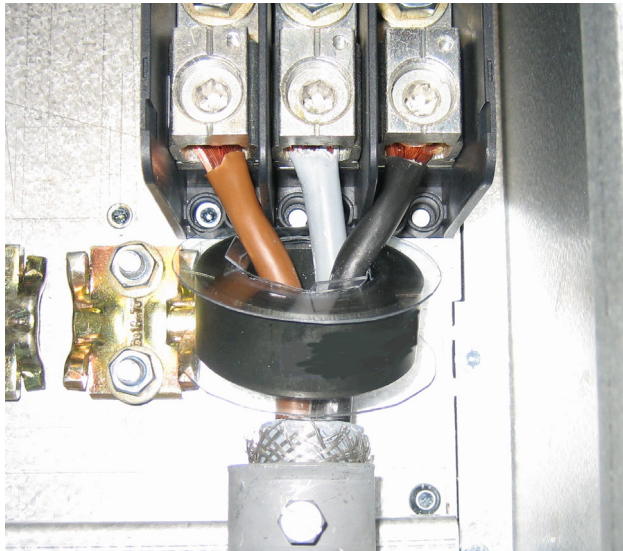

Fig. 55 Ferrite core mounted on the motor cables
Mount the ferrite core and its isolation sheet (included in the delivery) on the three motor phases U,V &W. The protective earth (PE) and the screen of the cable should be mounted outside the core see fig. 55.